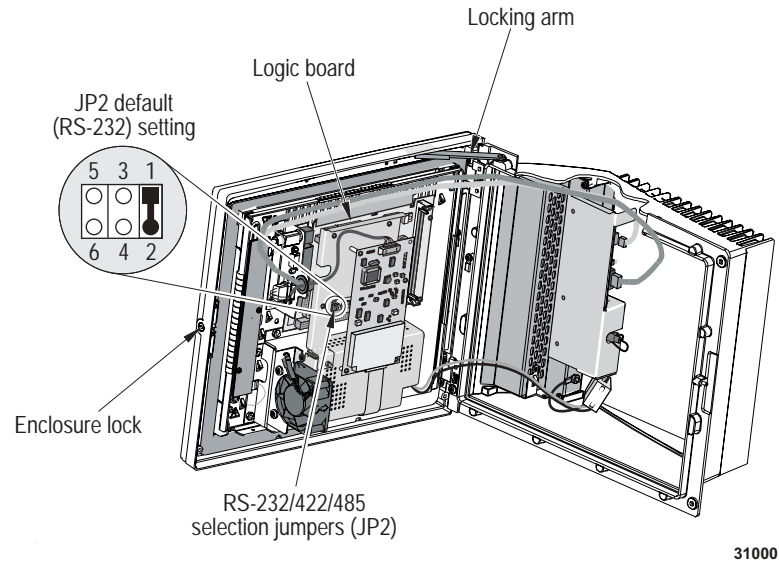

Figure 2: Location of logic board jumpers
6. Inside the enclosure, locate the 6-pin header with the JP2 jumper (Figure 2).